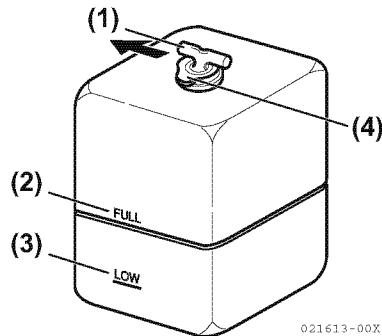

Figure 12
5. Check the coolant level in the coolant recovery tank. The level should be at the FULL mark (**Figure 12, (2)**). Add coolant if necessary. **NOTICE: NEVER pour cold coolant into a hot engine.**
6. Remove coolant recovery tank cap (**Figure 12, (4)**) to add coolant if necessary. Do not add water.
8. Check the rubber hose (**Figure 12, (1)**) connecting the coolant recovery tank to the coolant tank / heat exchanger. Replace if damaged.
2. Add coolant to the coolant recovery tank to stay within the upper or lower limit ((**Figure 12, (2)**) and (**Figure 12, (3)**)).